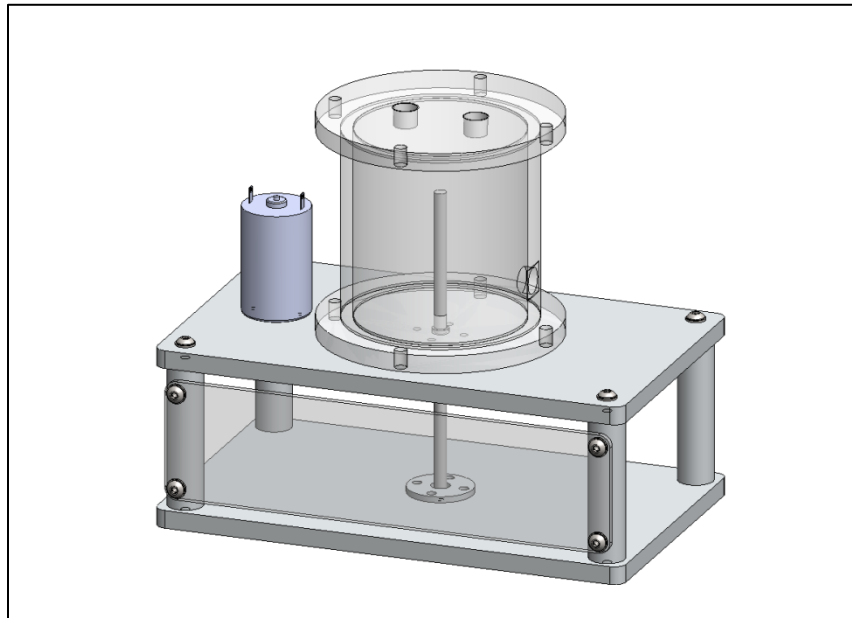

Figure 1.1 – Mixer device
- The manual is structured around the design and manufacturing of a single device (shown above in Figure 1.1) which encompasses many typical characteristics of mechanical features found in the Dept. Mechanical Engineering research apparatus.